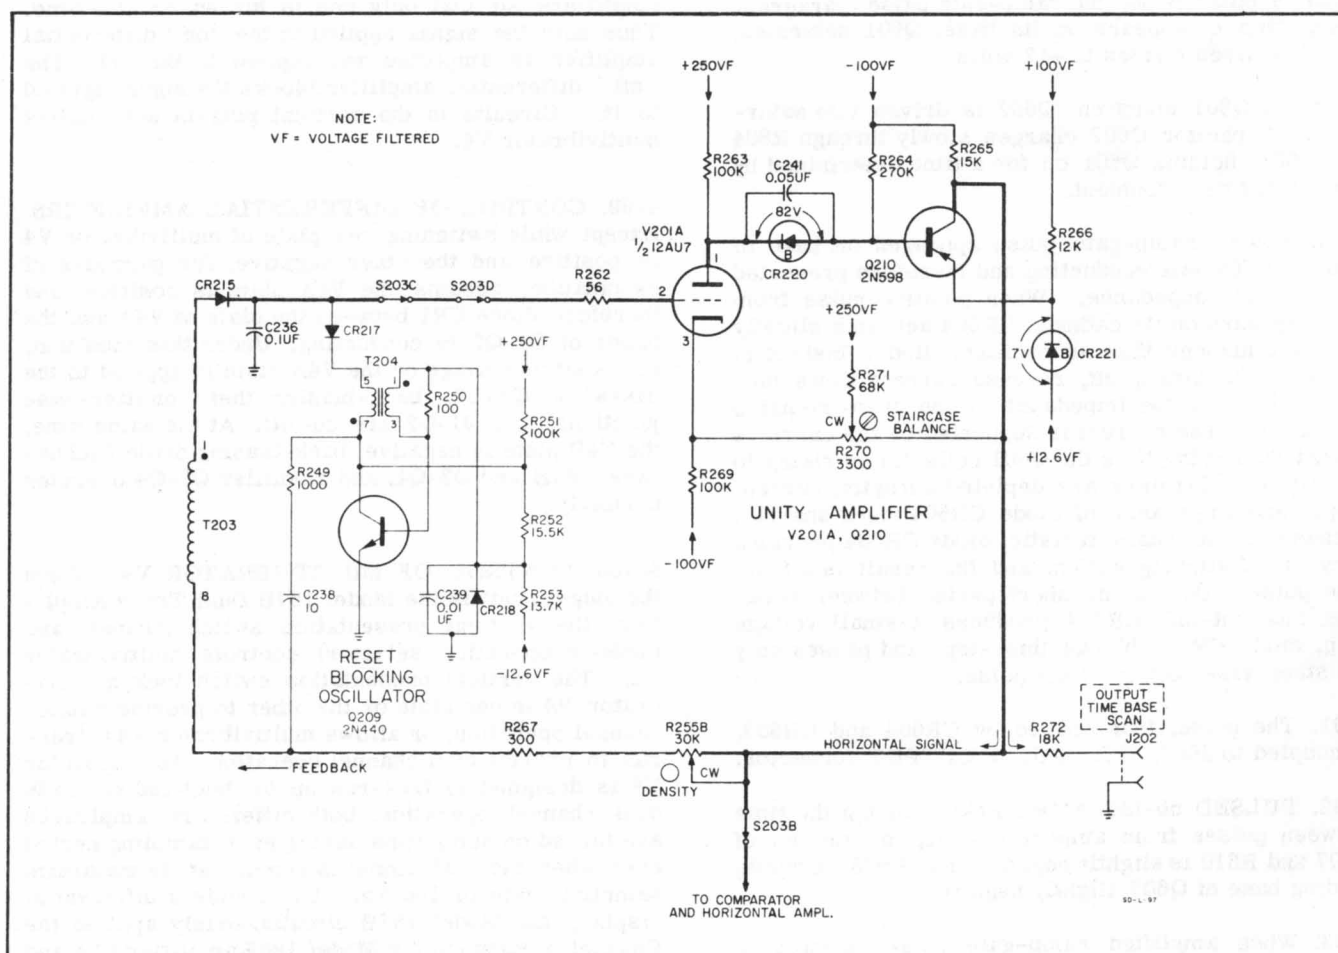

Figure 4-10. Staircase Generator
d. INTERNAL. In INTERNAL, the output of unity amplifier V201A-Q210 is a staircase voltage which results from the following circuit action (see figures 4-10 and 5-20):
- (1) Prior to start of circuit sequence (end of preceding staircase), staircase capacitor C236 is discharged, comparator blocking oscillator (Q208-T203 which generates sampler trigger) has not yet generated the next pulse, and diode CR215 is back-biased.
- (2) When coincidence occurs, comparator blocking oscillator Q208-T203 fires, and the resulting pulse is coupled by transformer T203 to diode CR215. CR215, forward-biased now, conducts, and capacitor C236 begins to charge.
- (3) The voltage across staircase capacitor C236 increases, and is applied, through SCANNING switch S203C/D, to unity amplifier V201A-Q210, increasing output of the generator by the same amount; this output is the horizontal-scan voltage.
- (4) After comparator blocking oscillator pulse decays, diode CR215 becomes reverse-biased again, and prevents charge on capacitor C236 from leaking off.
- (5) DENSITY control R255B is in the charge path of staircase capacitor C236. DENSITY permits limited adjustment of charge-path resistance, thereby determining amplitude of staircase steps by controlling amount of charge added to staircase capacitor each time blocking oscillator fires.
- (6) The output of unity amplifier V201A-Q210 is applied to transformer T203 in such a way that a bootstrap action results. Thus for a given density, the same amount of charge is added to staircase capacitor C236 each time, which results in staircase steps of equal amplitude.
- (7) When voltage across staircase capacitor C236 reaches about +15 volts, reset blocking oscillator Q209-T204 fires and discharges the capacitor. The staircase is thus reset and starts over again.